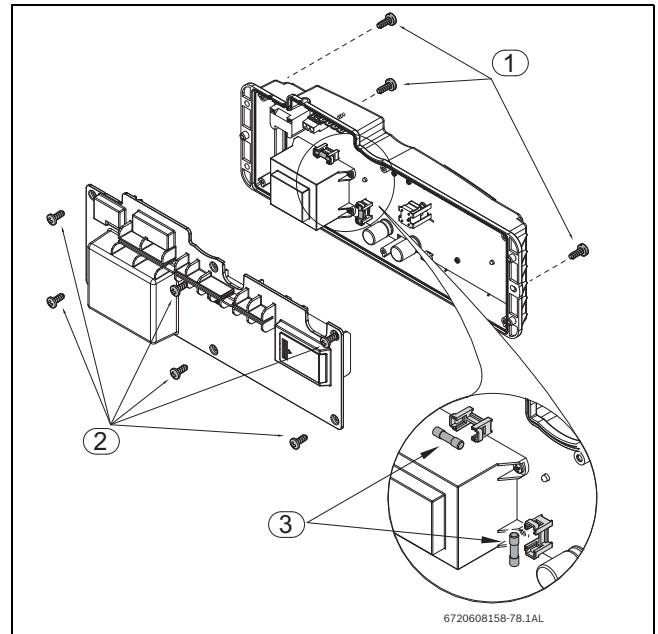

Fig. 46 Fuses position
- ▶ Remove the six screws from the back cover of the control unit, see fig. 46, pos. 2.
- ▶ Check the fuses in the printed circuit board, see fig. 46, pos. 3.